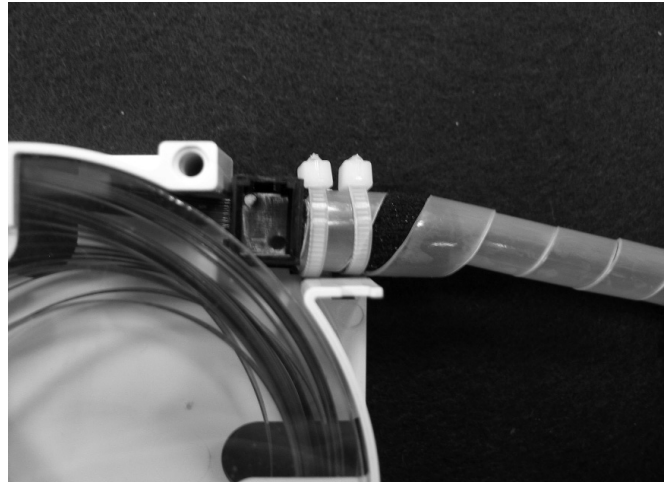

Figure 2
4. Secure prepared ribbon bundles to the splice tray with 1-1/2 wraps of loose buffer tube wrap and two tie wraps. (Figure 2)